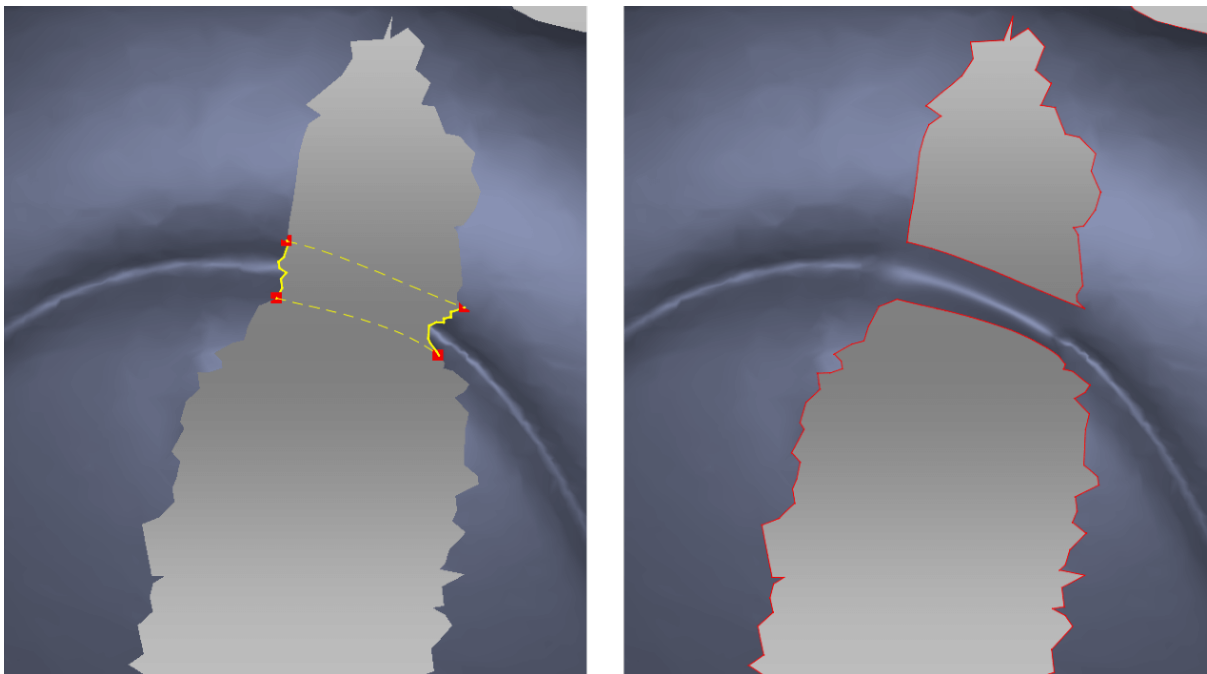

Figure 160: Specifying fragments. Correct fragments can resolve original geometry.
2. Specify two opposite fragments¹ between which a bridge will go (Figure 160). There are two ways to do this:
Preserve the original geometry (Figure 160)	Clear the Smooth edges first checkbox